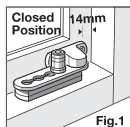

Fig.1
1. Assemble the lock as shown in Fig. 1, ensuring the Locking Screw (D) is firmly tightened using the key. If the window frame has a sloping face you will need to use the plastic wedge provided under the Base Plate (B) to level the lock.
2. With window closed, position the lock in the opening corner farthest from the hinge with the Stay Bracket (C) at approximately 14mm from the inside edge of the frame, as shown in Fig.1.
3. Mark the screw position through the exposed hole in the Base Plate (B).
4. Using the key, loosen the Locking Screw so that the Stay Arm (A) can slide to reveal the second fixing hole. Mark position and secure the Base Plate using two of the screws provided. **NOTE:** Ensure that the screw will not touch the glass.
5. Reposition the lock as shown in Fig. 1 and mark the screw positions through the fixing holes in the Stay Bracket (C). Remove the locking screw and secure the Stay Bracket to the opening window using the screws provided.